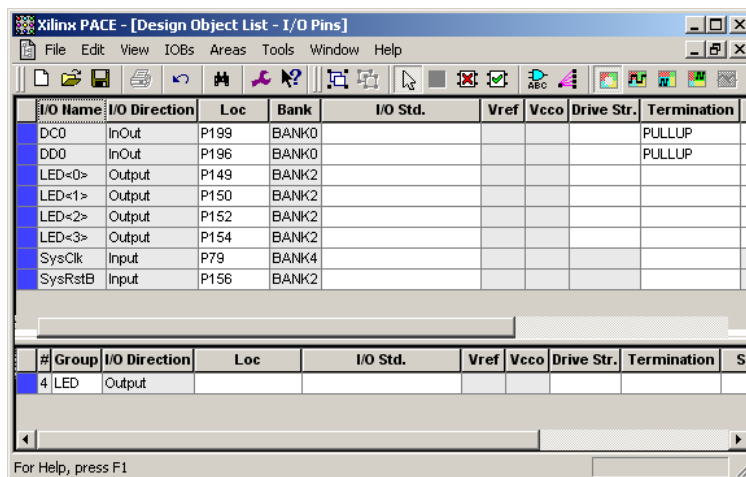

Figure 4-2 Setting internal pull up on ISE
- Setting in Design Object List. Create Area Constraints menu on ISE as show in Figure 4-2